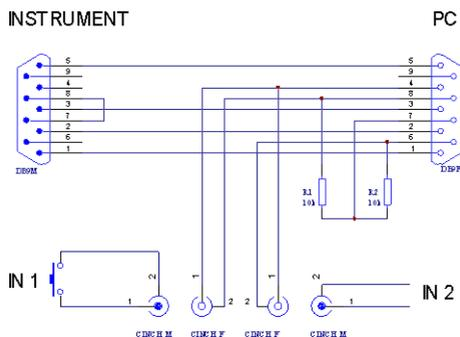

Fig. 3: Digital Input Device scheme
**Digital Input Device** (p/n DID01) together with the **SofTA ELSD** control module utilizes the unused pins of the serial connector on the computer for receiving these digital inputs. When the **Digital Input Device** is placed between the PC and the detector, it is able to receive the TTL signals and transfer them to the **SofTA ELSD** detector control module. The digital input can be triggered either by the button or by Start contact (e.g. from the autosampler). The scheme of the **Digital Input Device** wiring is shown in the **Fig. 3** on pg. 3.